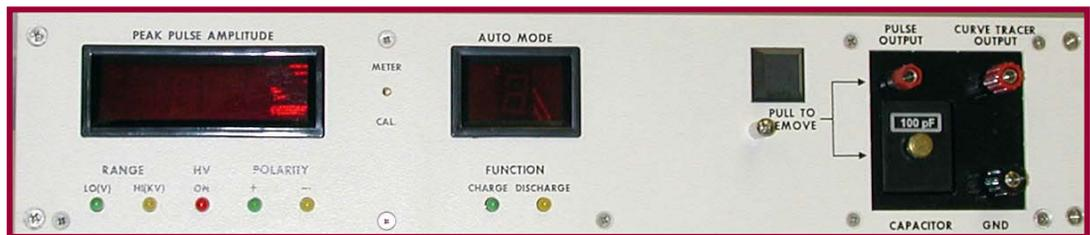

Figure 2.0-6: Display Panel
**Indicators:** The Model 910 Electrostatic Discharge Simulator utilizes LED indicators for all status and numeric readouts. These are located on the vertical sloping portion of the enclosure above the control panel as shown in Figure 2.0-6.